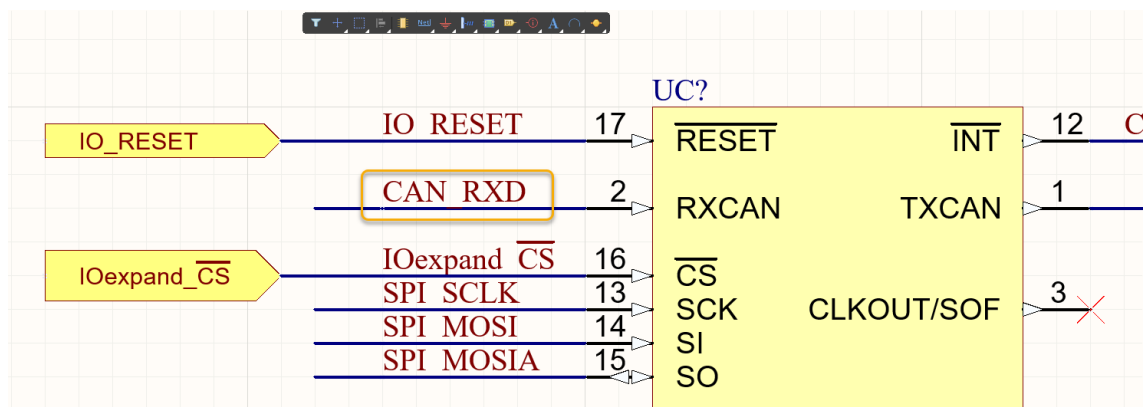

Figure 29. `CAN_RXD` Net Label placement
33. Place another instance of the `CAN_RXD` Net Label on the wire attached to UC1-2 to create a logical connection between `CAN_RXD`, as shown in Figure 29.